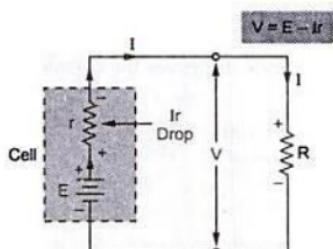

Fig. 1.19 Terminal voltage
3. Terminal voltage : When an external resistance is connected across the terminals of the cell, the current I flows through the circuit. There is voltage drop ' Ir ' across the internal resistance of the cell. The cell e.m.f. E has to supply this drop. Hence practically the voltage available at the terminals of the cell is less than E by the amount equal to ' Ir '. This voltage is called the **terminal voltage** V . This is shown in the Fig. 1.19.